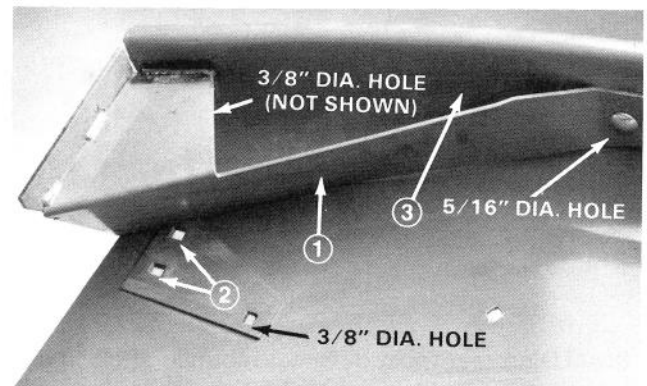

Figure 4
3. Position front baffle on underside of cutting unit, align (2) outside mounting holes with front deflector mounting holes (Fig. 4).
4. Using baffle as a template, mark and drill (2) 3/8 in. diameter holes and a 5/16 in. diameter hole in deck (Fig. 4).
5. Using appropriate mounting holes and fasteners, secure baffle to front wall of deck with a 1/4-20x5/8 carriage bolt and nut, and 5/16-18x5/8 carriage bolt and nut. Leave the remaining mounting holes (3) open at this time.